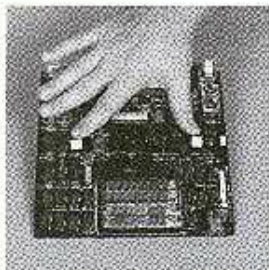

Figure 2-9
- a. Install the two rubber bumpers as shown in Figure 2-9. Attach one bumper to the "VIA" chip at board location D11. Attach the other bumper to the "FSG" chip at board location D5.